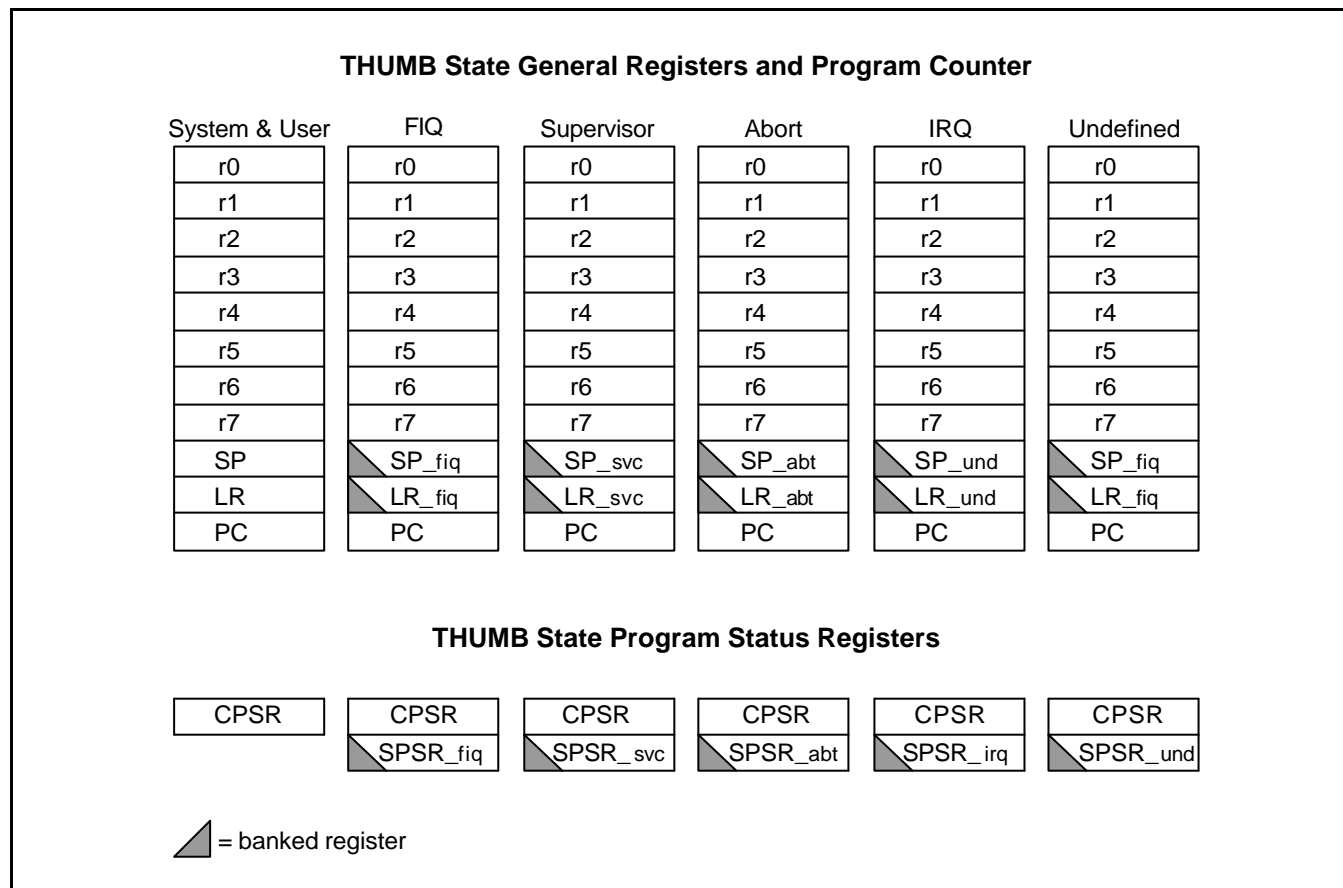

Figure 2-4. Register Organization in THUMB state
The THUMB state register set is a subset of the ARM state set. The programmer has direct access to eight general registers, R0-R7, as well as the Program Counter (PC), a stack pointer register (SP), a link register (LR), and the CPSR. There are banked Stack Pointers, Link Registers and Saved Process Status Registers (SPSRs) for each privileged mode. This is shown in Figure 2-4.